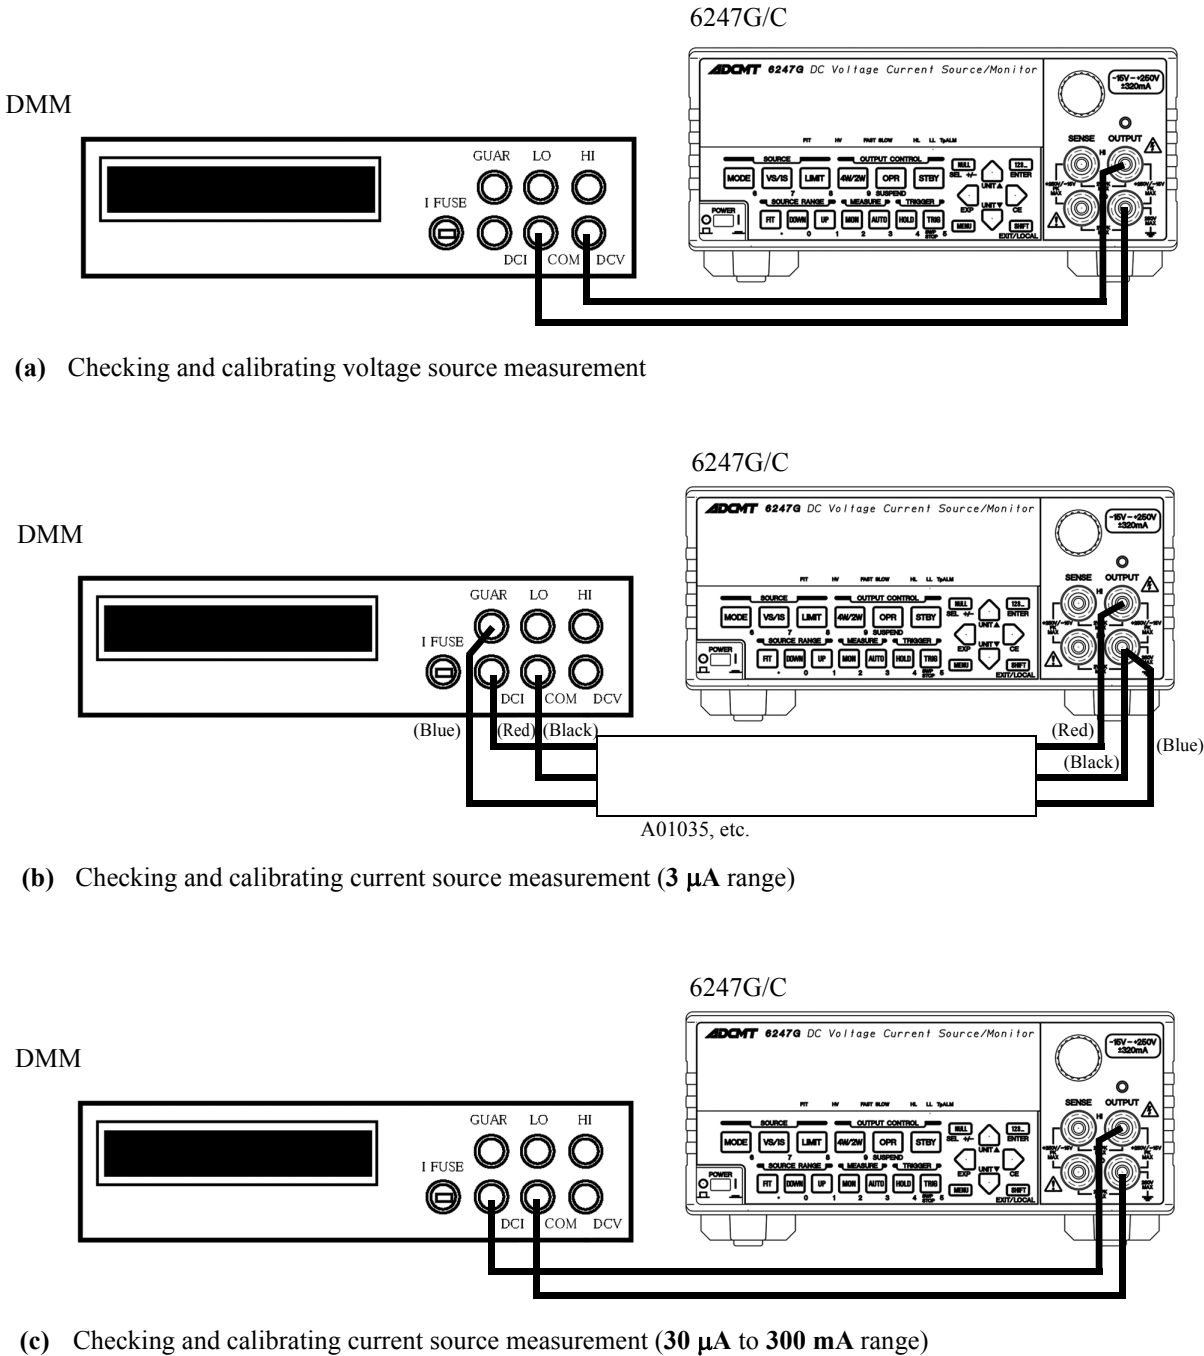

Figure 8-1 Connections for Calibration
The connections required for the performance test are the same as shown in Figure 8-1, "Connections for Calibration."
1. Connect the 6247G/6247C and a DMM (Digital Multi-Meter) as shown in Figure 8-1 (a).
1. Connect the 6247G/6247C and a DMM (Digital Multi-Meter) as shown in Figure 8-1 (b).
1. Connect the 6247G/6247C and a DMM (Digital Multi-Meter) as shown in Figure 8-1 (c).
3. When executing voltage calibration, make connection for voltage calibration in reference to Figure 8-1 (a) Checking and calibrating voltage source measurement of Figure 8-1 in Section 8.3, "Connections."